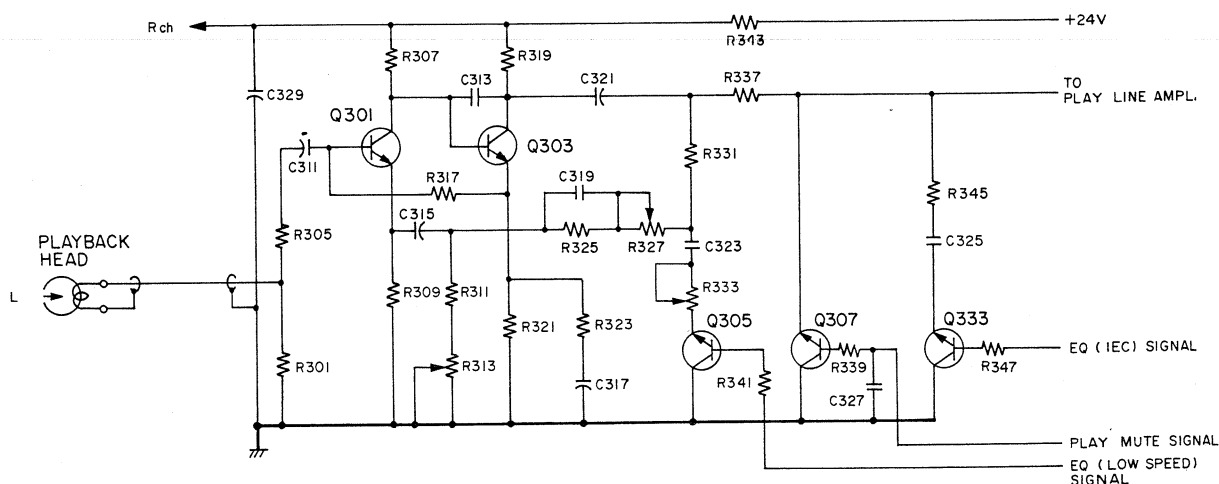
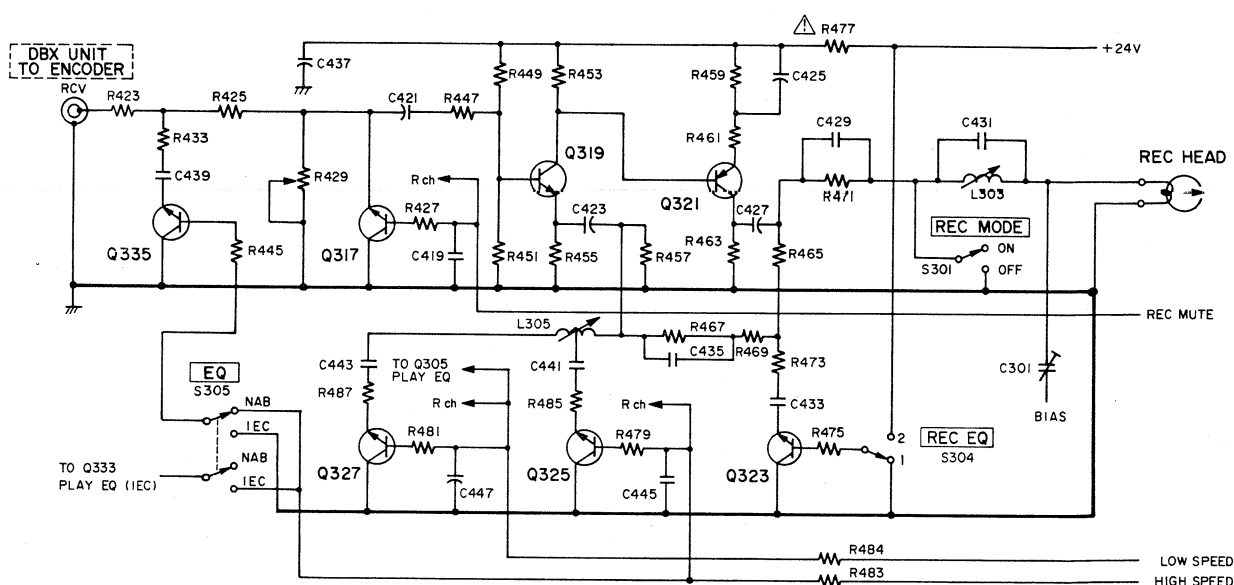

Fig. 8-1 Playback equalizer amplifier
Fig. 8-8 Recording amplifier
See Fig. 8-1. The playback equalizer amplifier is a direct-coupled amplifier of two stages, Q301 and Q303, which has a negative feedback circuit having compensation characteristics.
See Fig. 8-8. The recording amplifier is basically a direct-coupled amplifier of two stages, Q319 and Q321. Functions and operation of the amplifier with its peripheral circuits are described below.
- circuit in parallel, reducing the level at medium frequencies. In this circuit, the equalizer is switched over NAB and IEC. Q335 turns off when the EQ switch is set at IEC. At this time the level rises at medium frequencies but the amount of rise is cancelled during playback as constants are so selected that overall response becomes flat. (R345 and C325 of Fig. 8-1 have the same values as R433 and C439 of Fig. 8-8 respectively.)